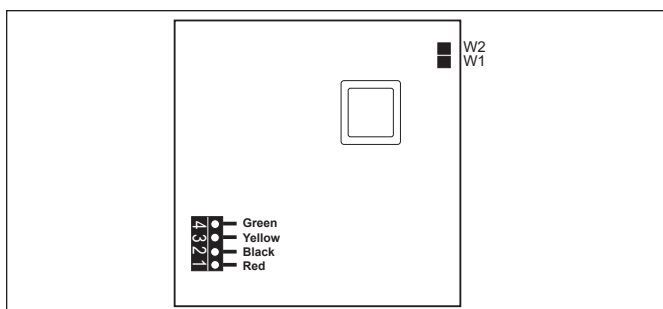

Figure 28. OneTouch PCB - Back View
5. Wire the 4-conductor cable to the red, 4-pin terminal bar (see Figure 28). Push the 4-pin terminal bar onto the back of the OneTouch PCB. Place the PCB with LCD and buttons back into the box. Insert the screws and hand tighten. **Do not overtighten.** Snap the faceplate into place.